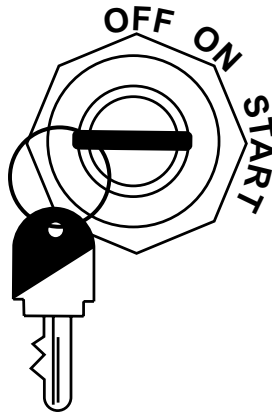
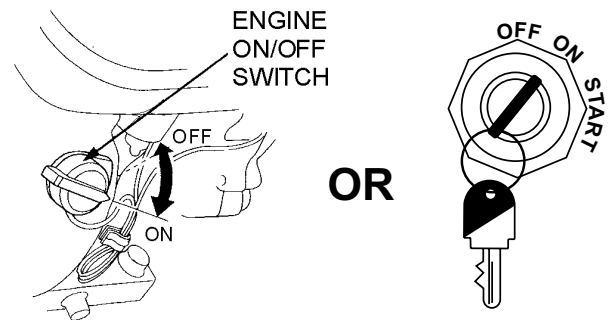

Figure 14. Engine ON/OFF Switch (Electric Start)
Figure 15. Engine ON/OFF Switch (Recoil Start)
7. Turn the engine ON/OFF switch (Figure 14) to the **START** position and hold it until the engine starts. When engine starts, release the key, allowing it to return to the **ON** position.
2. Place the Engine ON/OFF switch (Figure 15) in the **ON** position.
4. Turn the engine on/off switch (Figure 14 or Figure 15) to the OFF position to shut down the engine.